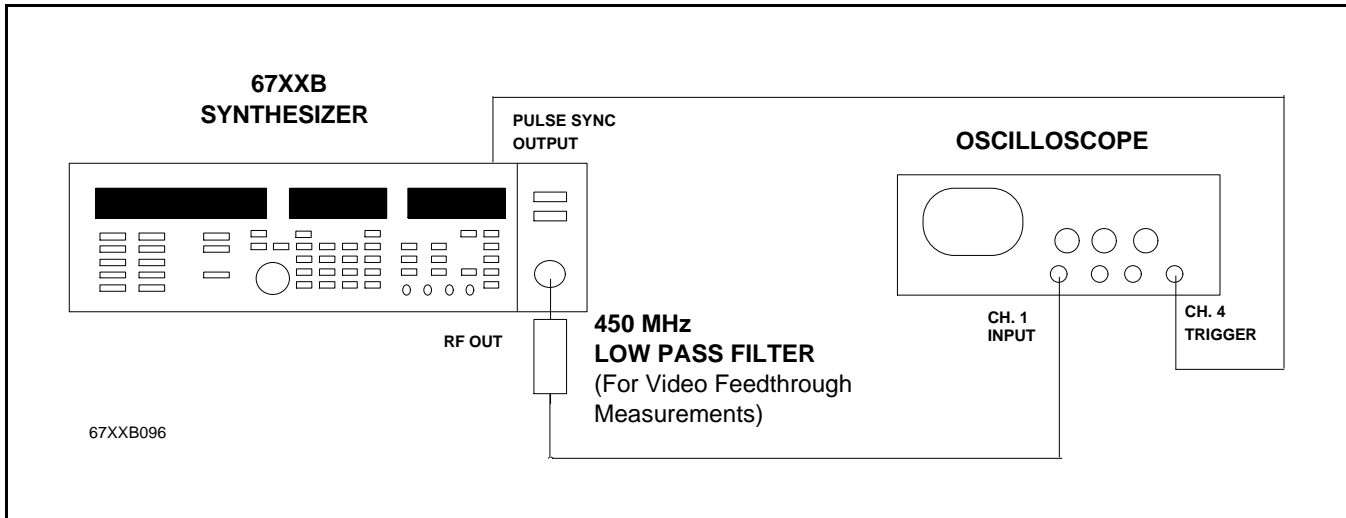

Figure 2-21. Equipment Setup for Pulse Modulation Test: Video Feedthrough
1. Connect the equipment, shown in Figure 2-21, as follows: